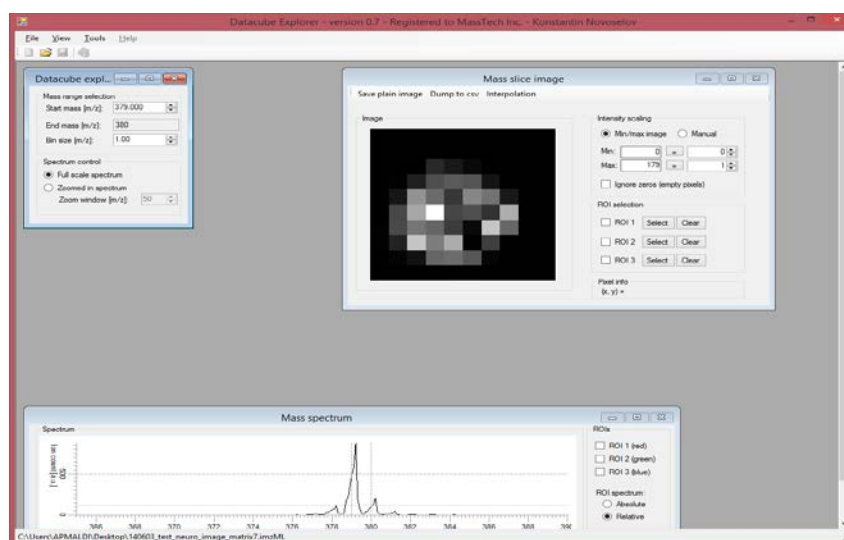

Figure 7.37. Datacube Explorer – Version 0.7
8. By changing the minimum/maximum value and selecting the appropriate m/z interval, the user’s test data should look like in Figure 7.37.